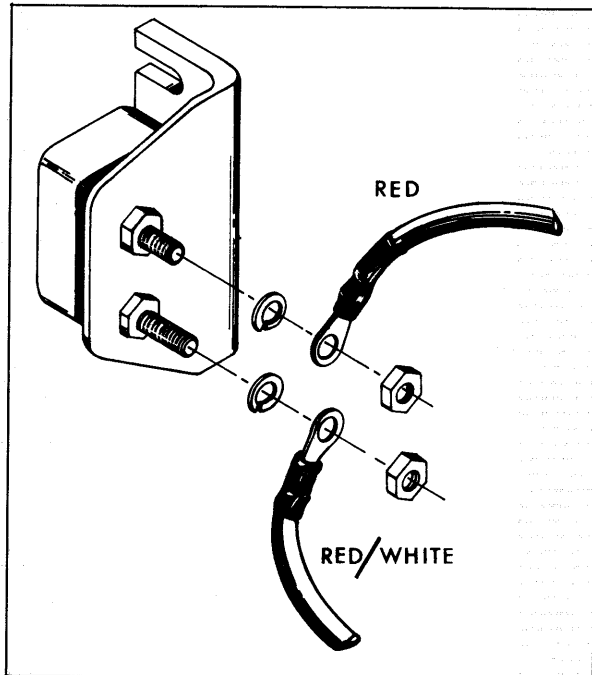

Figure 7 - Connecting Circuit Breaker Leads
- B. Install circuit breaker assembly on terminal block bracket and secure with two (2) screws and plain washers.
- C. Install lockwasher and red lead to top (short) stud terminal of circuit breaker and secure with hex nut. See figure 7.